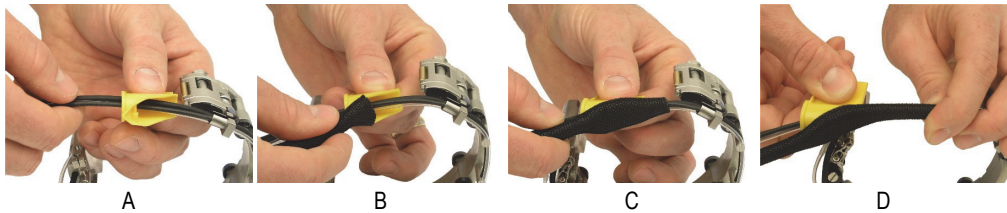

Figure 2-2 Installing the protective sleeve
2. Using the yellow loom installation tool, insert the protective sleeve over the cables and the tube as follows (see Figure 2-2 on page 33):